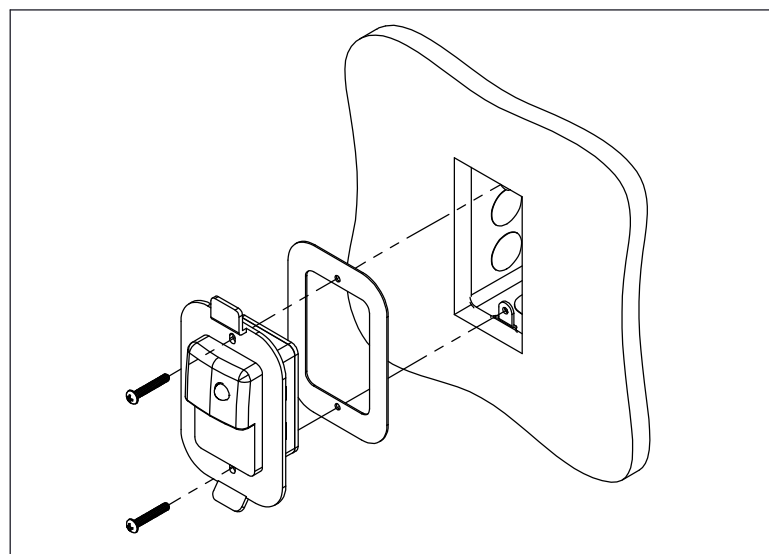

Figure 2
2. Make all necessary electrical connections and mount Driver Unit with Gasket onto junction box using Mounting Screws (Fig. 2).